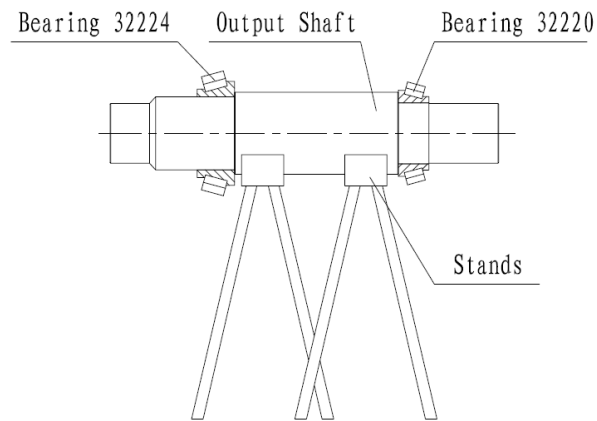

Figure 41 Output Shaft on stands
7. Move the output shaft onto support stands. See Figure 41.
20. Move the Bearing Cup 32224 into the carrier. (causing the bearing to seat) See Figure 41.
21. Put shims on the Bearing then install the Bearing cover2 (including seal and O-ring) and use the six Bolts (M16x60) and Washers (16) to secure it.